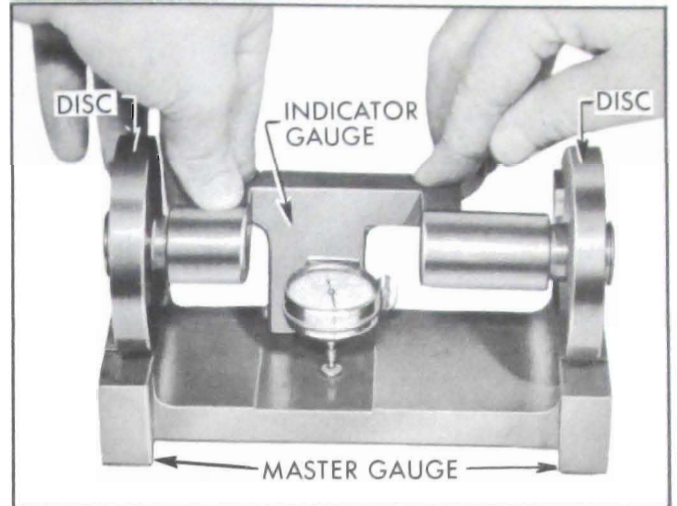

Figure 6-28—Zeroing Pinion Setting Gauge J-8619
Pinion Setting Gauge J-8619 consists of a master gauge and an indicator gauge upon which a dial indicator is mounted. The master gauge is used for zeroing the indicator gauge. See Figure 6-28.
2. Install the discs from the large rear axle pinion setting gauge set on the indicator gauge and install the small contact button on the stem of the dial indicator. Mount the dial indicator on the indicator gauge. See Figure 6-28.
5. Hold yoke down firmly, with both discs contacting the horizontal and vertical pads on master gauge, and set the dial indicator at zero. See Figure 6-28.